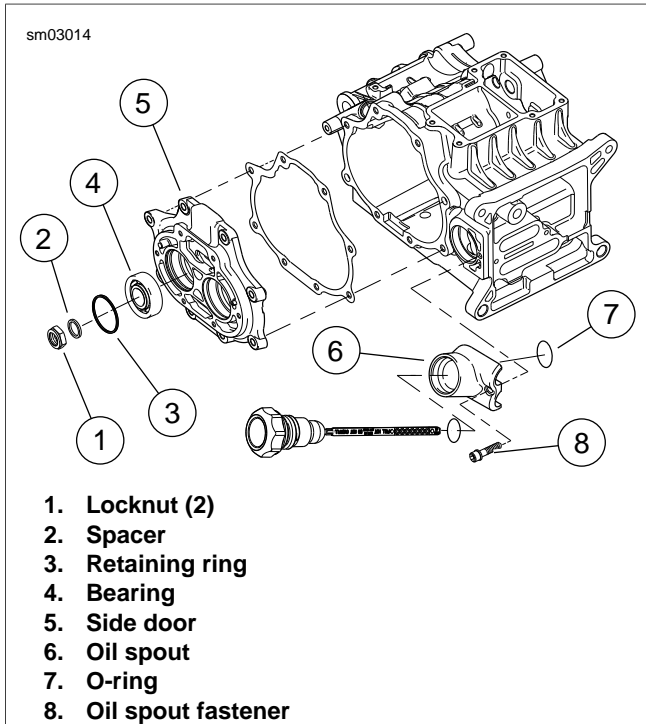

Figure 6-9. Side Door Bearings
10. See Figure 6-9. Remove oil spout fastener (8), oil spout (6) and o-ring (7). Discard o-ring.